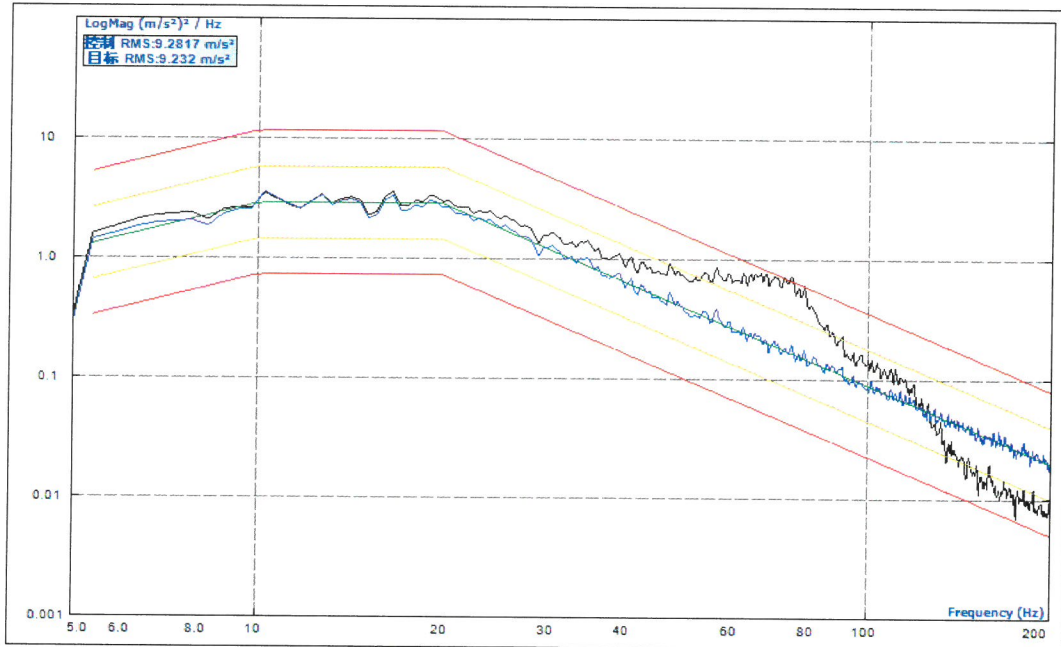

Fig.11 Show the PSD profile of X axis
- Fig.11 Show the PSD profile of X axis.